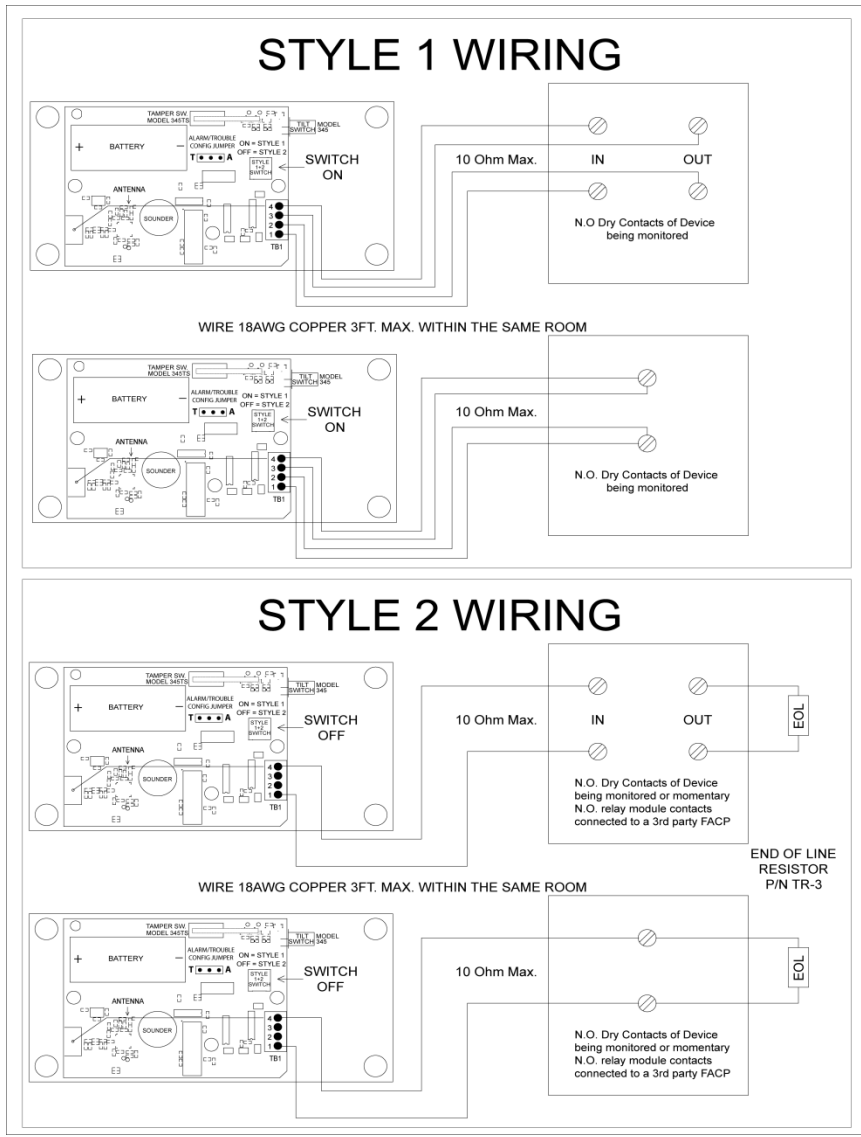
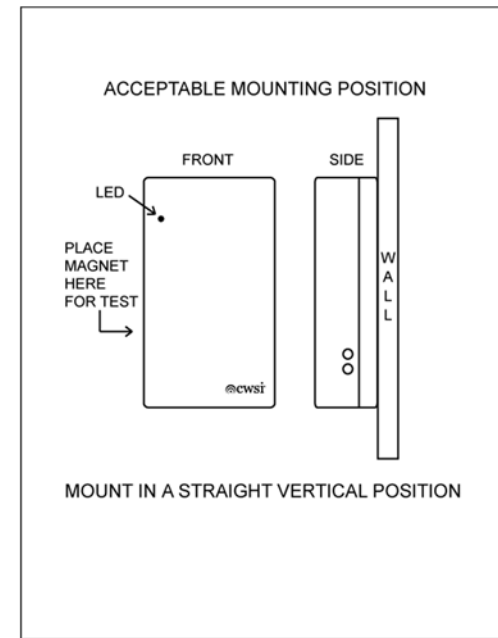

Figure 3
Figure 1
Select an accessible location that is not prone to tampering or accidental damage. The mounting surface should be relatively flat and capable of accepting screws or anchors. The 345(TS) must be installed in an indoor dry location. Exposure to weather or corrosive conditions may damage the unit. The Model 345 must be mounted vertically so that the arrow printed on the inside product label is pointing up (figure 1). The Model 345TS may be mounted in any position. On this model the arrow on the product label does not have to point up. **Conduct the signal test described in this manual prior to and after permanently mounting the unit.** An 18 gage copper wire pair should be used to connect the 345(TS) to the dry contacts to be monitored. Wire runs must be kept to a maximum of 3 feet, contained within one room and not routed near fluorescent lighting or equipment generating electrical noise such as generators, air conditioners, etc. The wires should enter the 345(TS) through the holes provided near the screw terminal block. Under no circumstances are the wires to be run near or draped over the 345(TS) printed circuit board. Style 1 or Style 2 wiring can be selected with SW2 on the board. Refer to figure 3 for proper wiring connection. When Style 2 wiring is selected, the Model TR-3 EOL resistor
For installation as a remote reset the 345(TS) should be mounted adjacent to the 3rd party FACP being used to reset the CWSI control panel. A minimum of 3 inches should be maintained between the 3rd party FACP and the 345(TS) to allow for easy access when servicing the transmitter. Use style 2 wiring as shown in figure 3 and connect the 345(TS) to the N.O. contacts of a listed relay module which activates **momentarily** and **only** when the 3rd party FACP is reset. The wire run must be kept to a maximum of 3 feet. The momentary activation time must be a minimum of 3 and a maximum of 15 seconds. **Conduct the Signal Test prior to and after permanently mounting the unit.** After installation or service perform the **Remote reset Module Test** as outlined in this manual. Note: The remote reset function is only supported on some model control panels. Refer to the control panel manual for compatibility information.
The test must be performed while the transmitter is held in its intended mounting location. Initiate the test by placing a strong magnet along the upper right side of the transmitter case (figure 1). The model 345(TS) piezo sounder will beep once. A delay of up to 15 seconds will occur followed by either one or two beeps. One beep indicates an unacceptable location and two beeps indicate an acceptable location. If only one beep is heard then relocate the model 345(TS) mounting position closer to the nearest repeater or control panel and perform the test again. Continue this procedure until 2 beeps are achieved. **Do not mount the transmitter unless 2 beeps are heard when performing 5 consecutive signal tests.** This test must be performed before and after transmitter installation. Note: A CWSI model AR-3/5 repeater or control panel must be powered up, installed, and enrolled before running this test. Refer to the signal survey section of the control panel manual for more information on performing a signal survey.